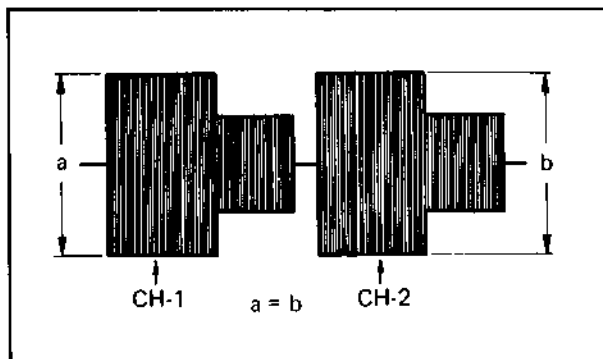

Fig. 6-34 Playback color channel balance
3. Adjust the levels to be equal by using R49 (P. B. COLOR CH. BALANCE) as shown in Fig. 6-34.